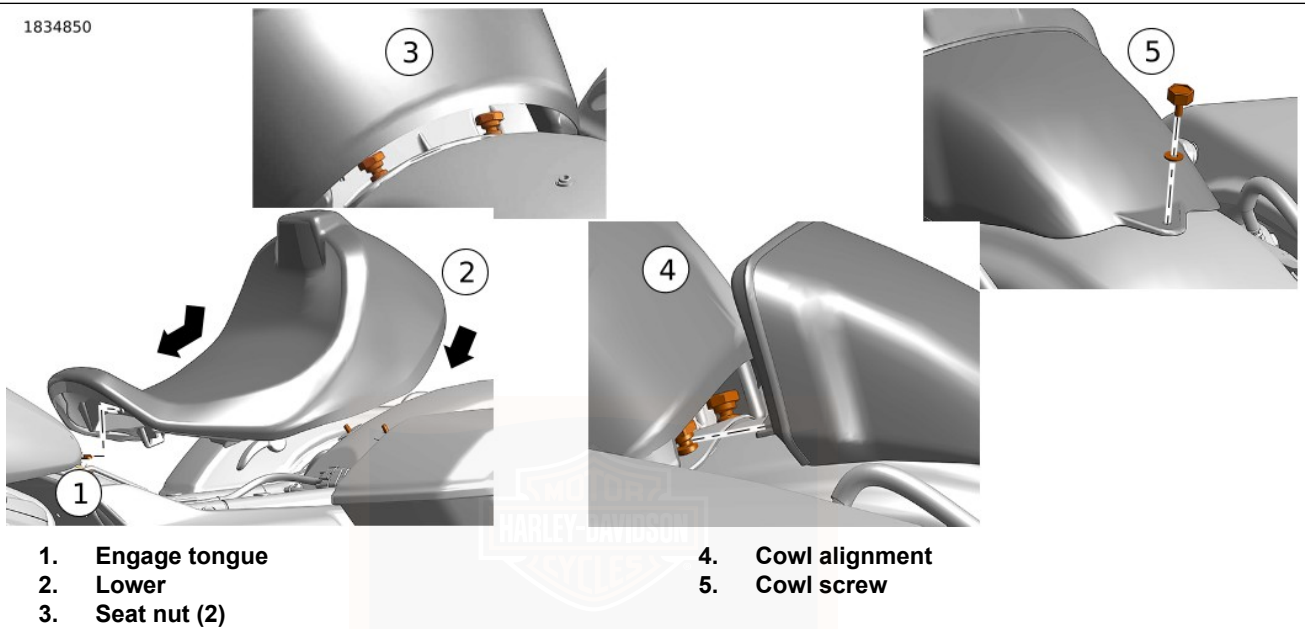

Figure 117. Seat and Cowl
1. See Figure 117. Slide seat forward to engage the tongue on the frame into the slot in the seat (1). Lower the rear of the seat onto the seat mounting studs (2).
2. Install seat nuts (3). Tighten **8.0–15.0 in-lbs** (0.9–1.7 N·m)